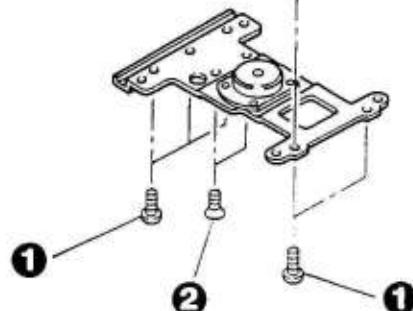

Fig.1
1. Disassemble in the order of numerical figures shown in small circles. (See Fig. 1.)
Note: Let the F3 gear substrate ⑨ escape in the arrow direction, and remove the wind-up substrate unit ⑩. (See Fig. 1.)
2. Disassemble in the order of numerical figures shown in small circles. (See Fig. 1.)
3. Remove two places of contact Ⓨ from the battery case. (See Fig. 1.)